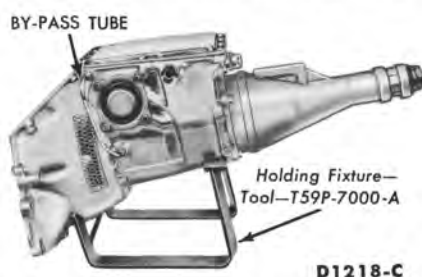

FIG. 1—Transmission Mounted in Overhaul Fixture
the assembly in the transmission holder shown in Fig. 1.
3. Remove the 6 bolts that attach the control valve body to the case (Fig. 1, Part 6-4). Remove the control valve body and the throttle valve to vacuum diaphragm rod, is so equipped.